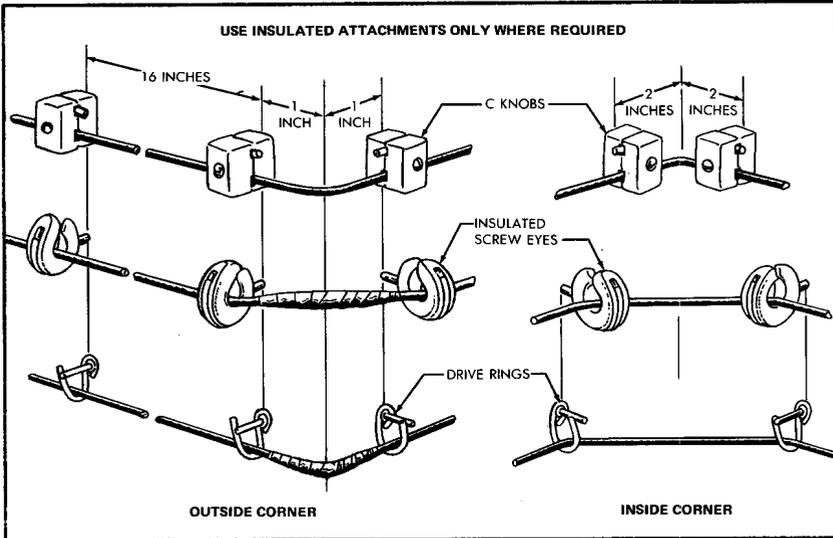

FIGURE 5. Attachments Inside of Building
6.03 Space attachments 16 inches apart on runs between the point of entrance and the protector or connecting block. Spacing will vary at corners with type of attachment used. See Figure 5.